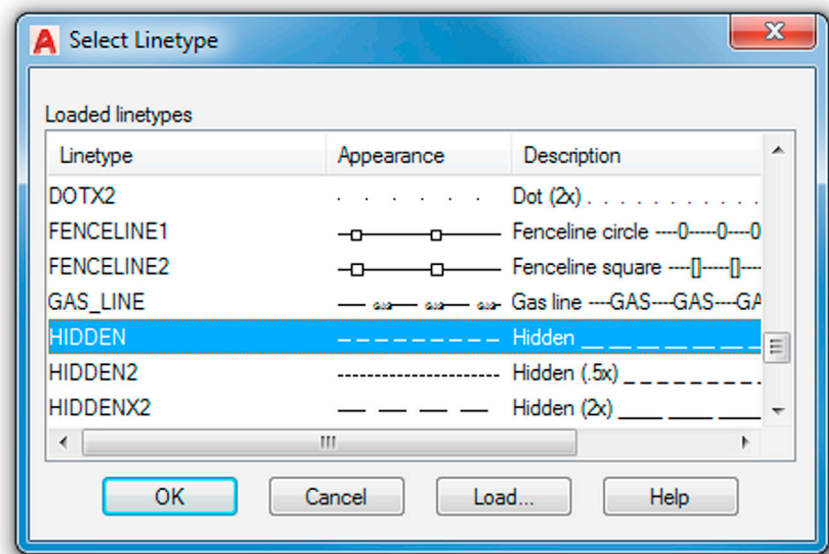

FIGURE 3.9 Select Linetype.
- Step 3.** Click on the word `Continuous`, and the Select Linetype (Fig. 3.9) dialog box comes up with all your linetypes preloaded. If we did not load them earlier, the box would be practically empty and we would have to do the loading at this point.